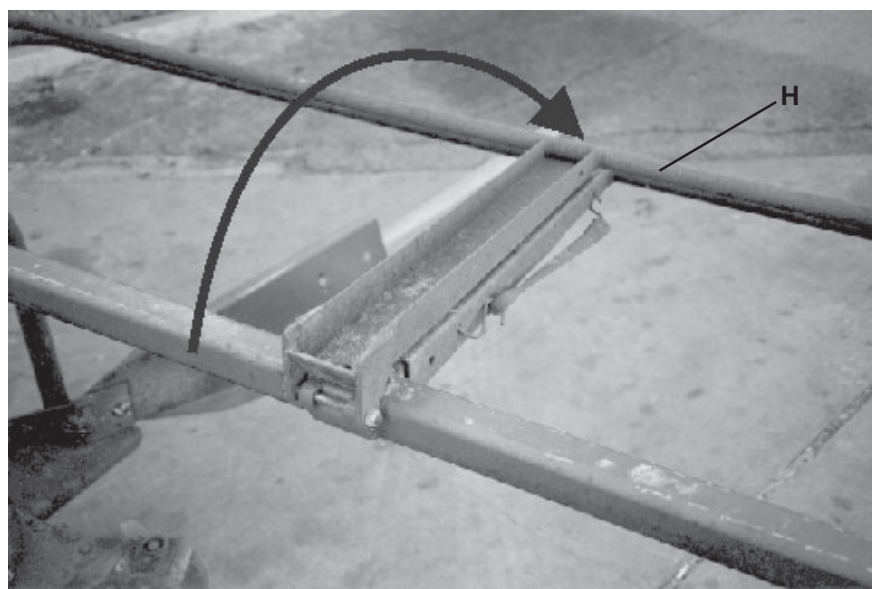

Figure 20
2. Before folding check clearance between tractor & cover frame. Fold back the front cover frame (H) and cover sheet. (See **Figure 20**.) Fold front & rear cover under front cover frame and secure with tarp strap stored under center of rear cover. Attach to hole in center front cover frame.